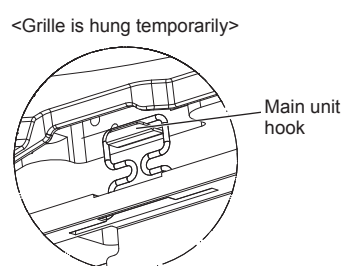

Fig. 6-6
- After tightening the screw, confirm that the two grille hooks (Fig. 6-6) are latched onto the hooks on the main unit.